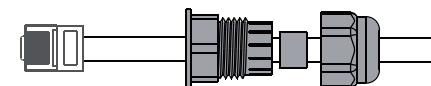

Figure 4.8-3 Remotely close the cable connection
Step 3-2 For Remote Shutdown. Run the cable through the steel plate, Then wire from pins 5 and 6. Table 4.5-1 describes the 6-pin port definition, Wiring is shown in Figure 4.8-3